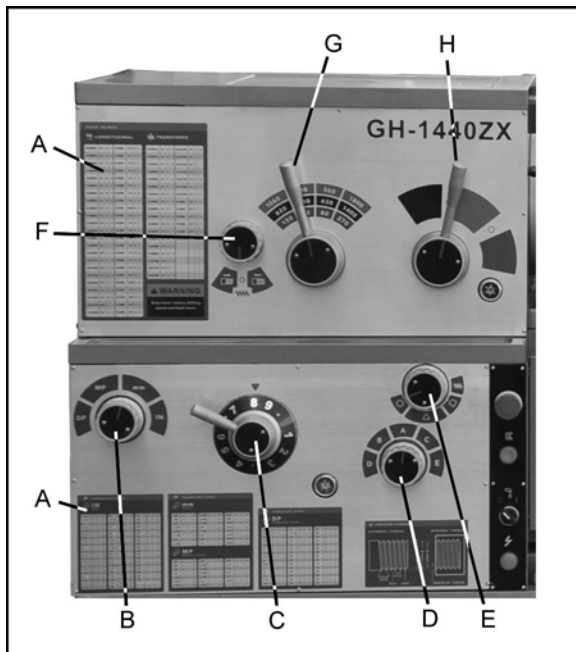

Figure 22
1. Reference the feed and thread chart (A, Figure 22).
2. Move levers and knobs (B/C/D/E, Figure 22) to the appropriate position according to the feed and thread chart.
1. Set forward/reverse lever (F, Figure 22) to desired direction.
2. Set selector levers (G/H, Figure 22) to desired R.P.M.
3. Select desired thread using levers (B/C/D/E, Figure 22).